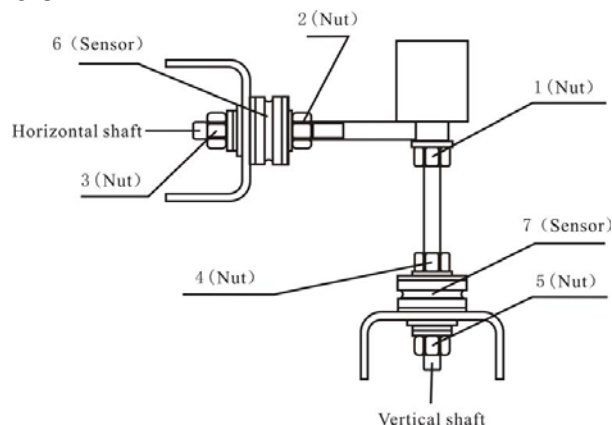

图 16-1
①Unlash the No.1, 2,3,4,5 nuts.
②Dismantle the sensor and nut.
③Replace No.6, 7 the sensor organ.
④ Install the sensor and the nut according to the figure16-1. (Pay attention to the sensor's direction.)
⑤Tighten No.1 nut emphatically.
⑥ Tighten the No.2 nut to make the main shaft and the flank of cabinet, and then emphatically tighten the No.3 nut.
⑦Tighten the No.4 nut (not too emphatically), then tighten No.5 nut.